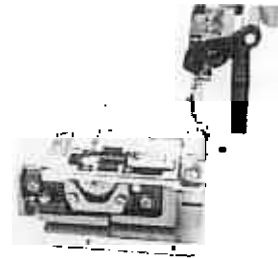

Fig. 14
- (i) Lift-up the opening/shutting lever to open the fiber clamp mechanism. Ensure the blade is in the forward starting position (refer to Fig. 14).